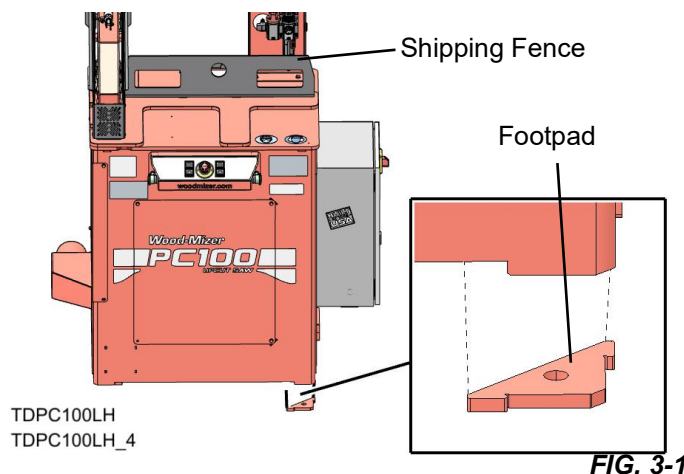

FIG. 3-1
NOTE: Lifting straps/chains or carefully aligned forks can be used to lift the machine by the attached shipping fence. See FIG. 3-1
4. Anchor machine to flat level floor using 1/2" hardware (not included) in each of four footpads See FIG. 3-1.